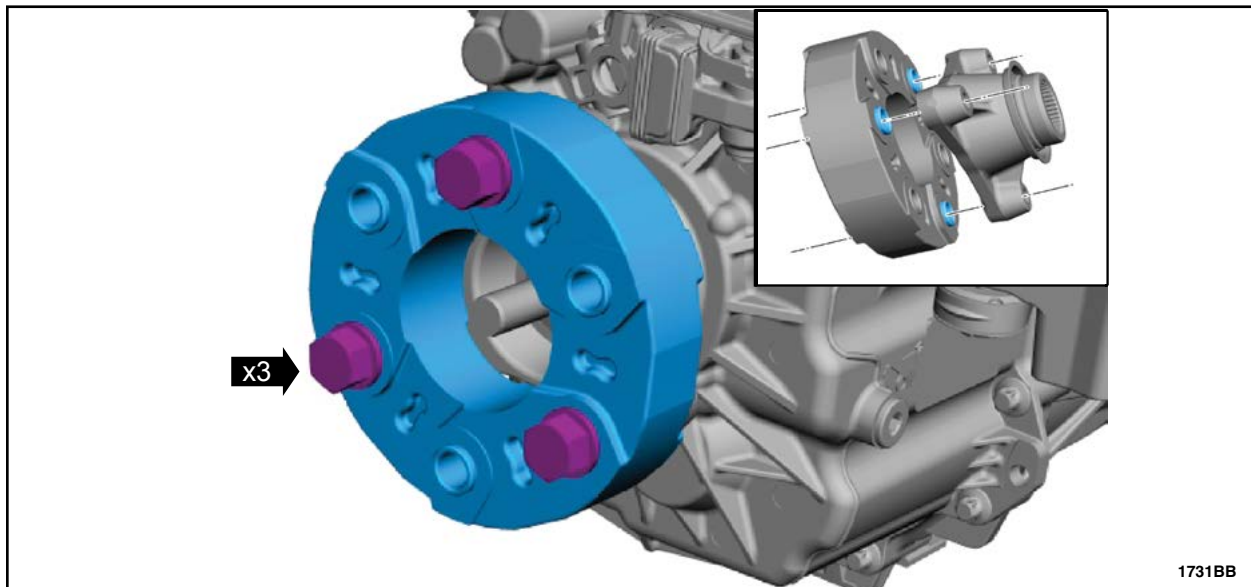

FIGURE 10
9. Install the *new* driveshaft flexible coupling. Please follow the Driveshaft Flexible Coupling Removal and Installation Workshop Manual (WSM) procedure in Section 205-01. See Figures 10 and 11.
NOTICE: The flex coupling must be installed with the blue paint mark facing the transmission output flange. The protruding flex coupling bushings must align with the driveshaft flange and transmission output flange as shown in Figures 10 and 11.